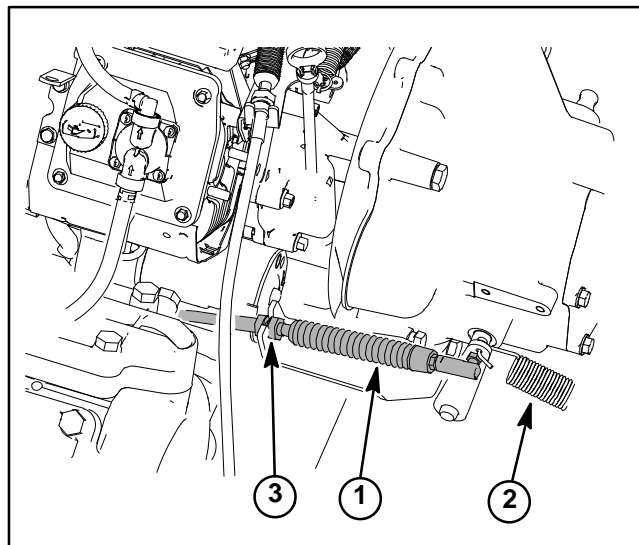
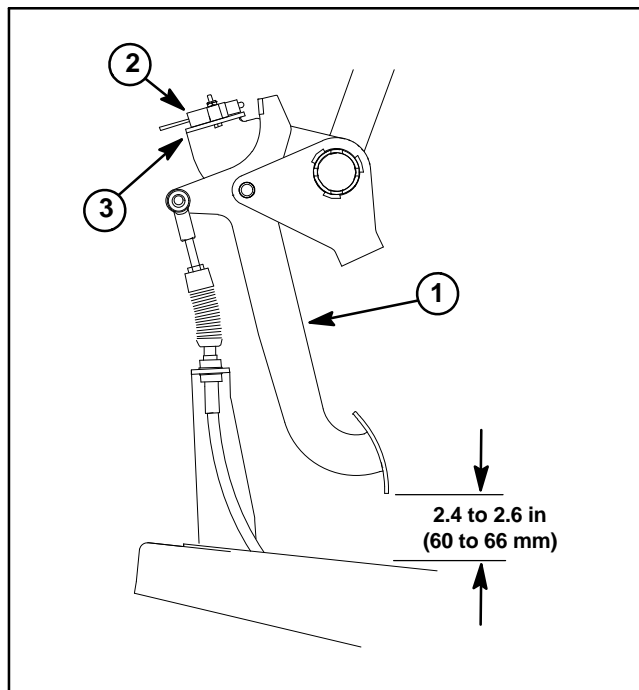

Figure 4
Figure 5
3. Disconnect clutch return spring (Fig. 4).
4. Apply 4 lbs (kg) force against clutch pedal and adjust cable nuts (Fig. 4) until bottom edge of clutch pedal is **2.4 to 2.6 in (60 to 66 mm)** from floor plate (Fig. 5).
6. Make sure pedal actuates clutch switch and rests against the hard pedal stop (switch mount) when in the return position (Fig. 5).